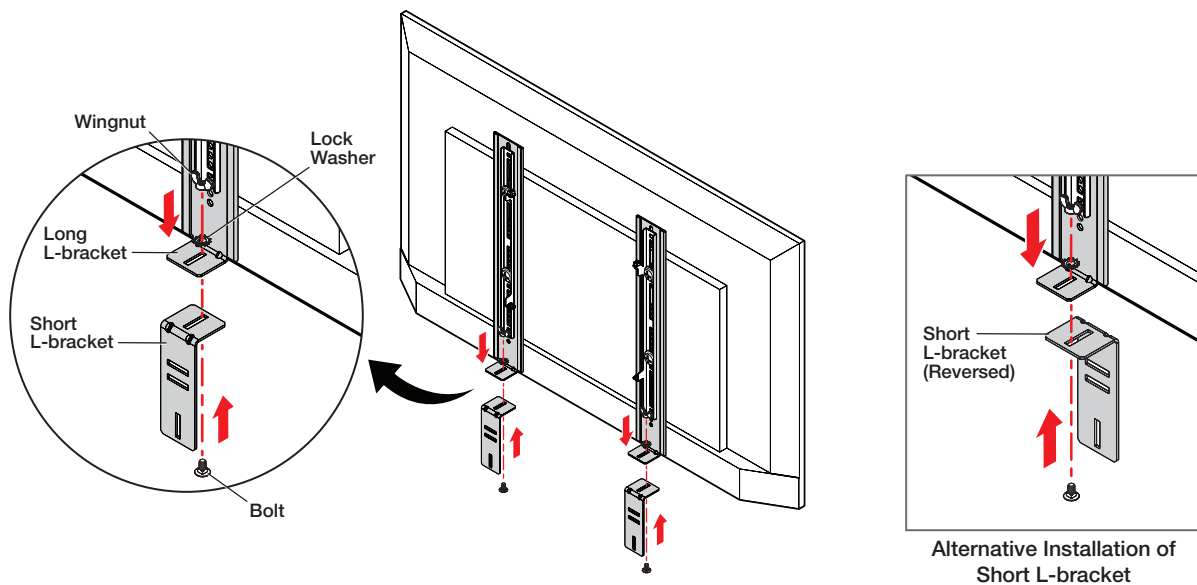

Figure 3. Installing short L-brackets on the long L-brackets
- Position the short L-bracket under the long L-bracket so that the L-bends of each bracket are paired together (see figure 3). Afterwards, install one bolt with a wingnut and lock-washer so that the long and short L-brackets are held together. Tighten the wingnut.
NOTE: The short L-bracket may be reversed if the soundbar needs to be positioned further forward relative to the display (see figure 3).